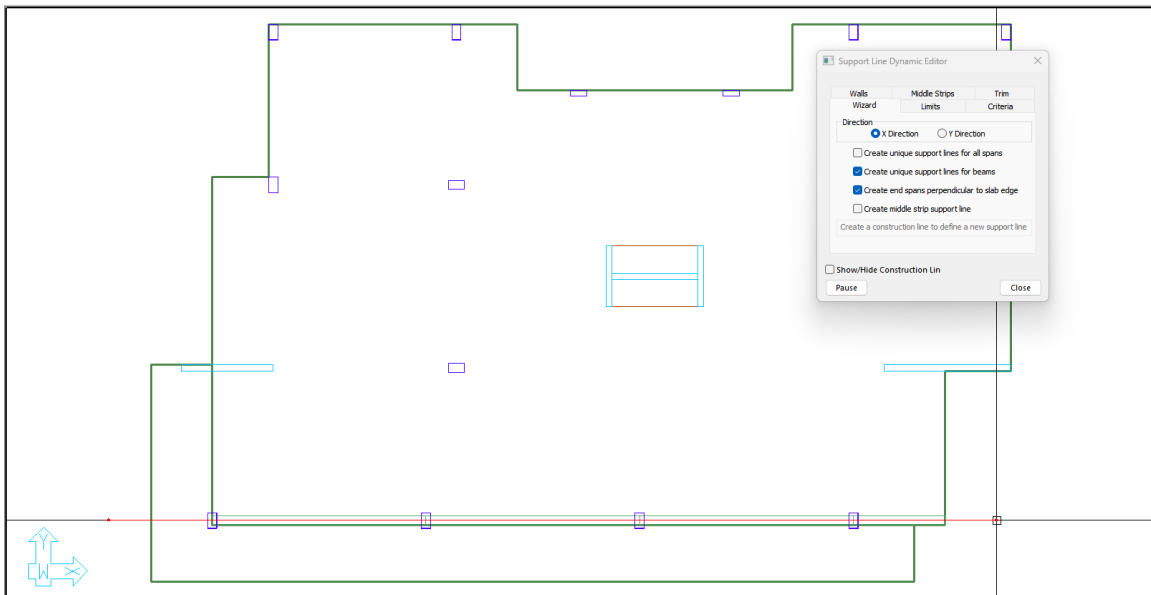

FIGURE 9-7
- Position your mouse to be in line with the lower column line, but outside of the slab region, to the right of the floor as shown in **FIGURE 9-7**.